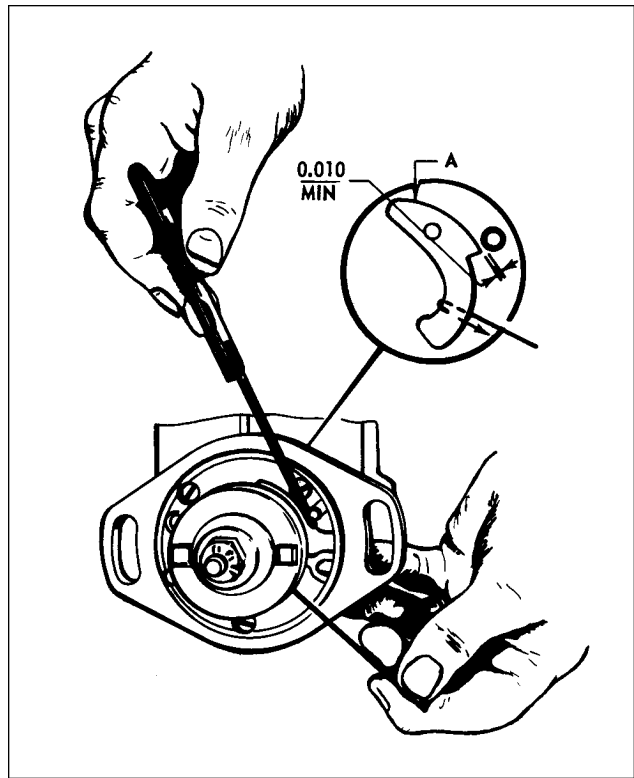

Figure 74-5. Flyweight Clearance of Impulse Coupling
- B. Hold magneto as shown in Figure 74-5. Pull heel of flyweight outward with the hooked wire and make certain that feeler gauge of 0.010 inch minimum thickness will pass between stop pin and the highest point of the flyweight.